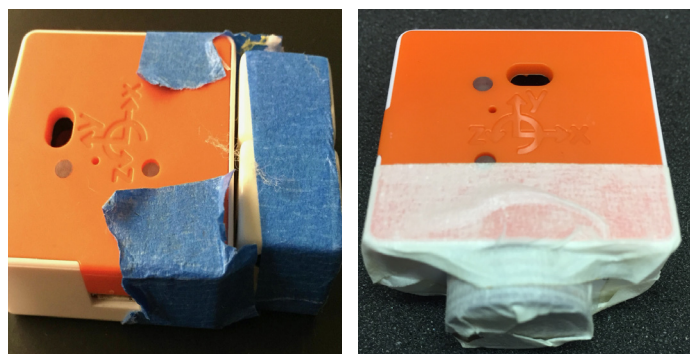

Figure 3 - Sensor attached to base
2. Tape the wireless sensor on top of the two-dice or stack of pennies (See Figure 3). The sensor will represent the Pedestrian Crash Test Dummy and will measure the impact of the crash on the dummy in g’s.